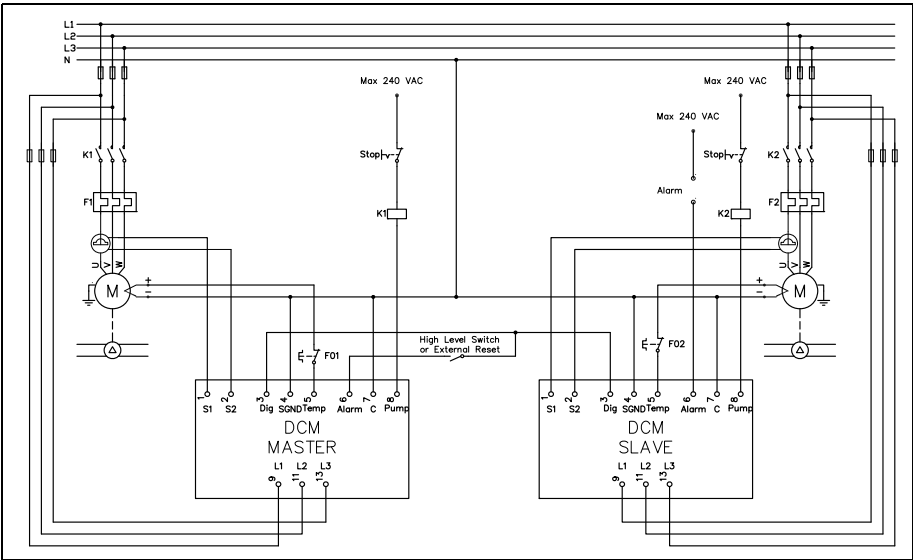

Fig. 16 Dual-pump example (alternatively, see the Appendix, Chapter 13)
Connect the main voltage from each pump to the respective DCM as described in Section 6.1.1, page 28. See Fig. 16.
Connect the current transformers (CTMs) from each pump to the respective DCM as described in Section 6.1.2, page 28. See Fig. 16.
Terminals 6 and 7 on the DCM SLAVE are the alarm relay connections. These terminals indicate an alarm if a fault is detected by the DCM MASTER or the DCM SLAVE. See Fig. 16. When powered off, the alarm relay is NC (normally closed). When powered on, NC or NO (normally open) can be selected. See Table 8, page 53, window 51.
Terminals 3 (DIG) and 4 (SGND) are connections for closing contacts and for communicating between the DCM MASTER and the DCM SLAVE. The digital input can be used for high-level switch or external reset. The high-level switch must be connected in series with the DCM MASTER terminal 6 (ALARM) and terminal 3 (C). When external reset is chosen use the pulse signal. Connect terminal 3 (DIG) on the DCM MASTER to terminal 3 (DIG) on the DCM SLAVE. Connect terminal 4 (SGND) on the DCM MASTER to terminal 4 (SGND) on the DCM SLAVE. See Fig. 16 and Table 8, page 53, window 53.
Connect the control signals for the start and stop equipment for each pump to the respective DCM as described in Section 6.1.4, page 29. See Fig. 16.
Connect the temperature sensor and/or motor protection for each pump to the respective DCM as described in Section 6.1.6. See Fig. 16.
1. In window 71 set the required function: dual-pump control MASTER (2) for one of the DCMs and for the other DCM dual-pump control SLAVE (3). The DCM MASTER must be the DCM that is wired for MASTER, see Fig. 16, page 36.
14. In window 53 on both DCMs, set the required function for the digital input (DIG), value (1) high-level switch, (2) external reset, see Section 7.1.4, page 37.
15. Connect the start and stop equipment to terminal 8, see Fig. 16, page 36.
If the pump is snoring and the high-level switch gives the signal to pump, this is a fault situation and an F4 alarm is generated and the ALARM relay is activated. If communication between the DCM MASTER and the DCM SLAVE is interrupted an F4 alarm is generated and the ALARM relay is activated. See Fig. 16, page 36 and Section 7.1.4, page 37.
It is also possible to connect a motor protection relay to generate an F5 alarm. See Fig. 13, page 27 and Fig. 16, page 36.
The value in window 04 increases when the pump starts to snore.	Check that the current transformer(s) is/are linked to the phase connected to terminal 9 (L1), see Section 6.1.2 and Fig. 13 or Section 7.1.2 and Fig. 16.